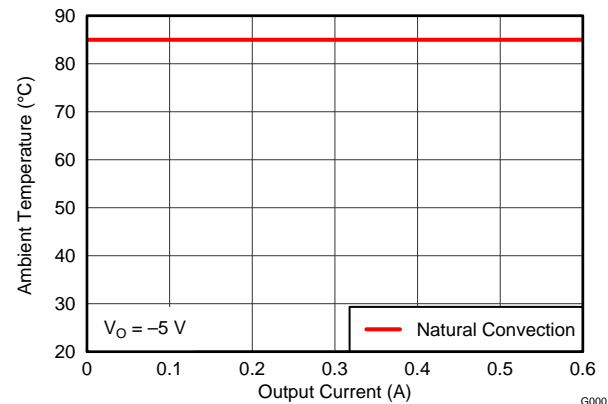
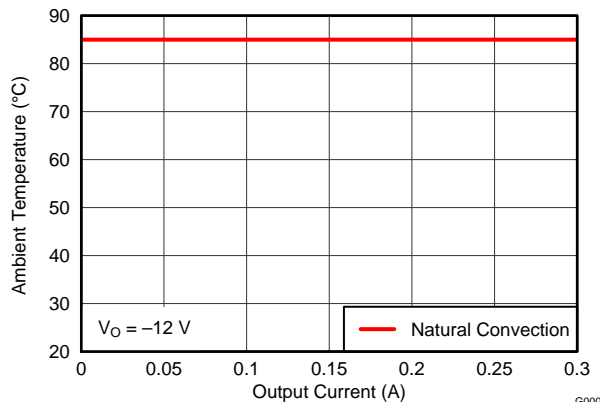

Figure 6. Safe Operating Area
Figure 7. Safe Operating Area
- (2) The temperature derating curves represent the conditions at which internal components are at or below the manufacturer's maximum operating temperatures. Derating limits apply to devices soldered directly to a 100 mm × 100 mm, 4-layer, double-sided PCB with 1 oz. copper. Applies to Figure 6, Figure 7, and Figure 8.